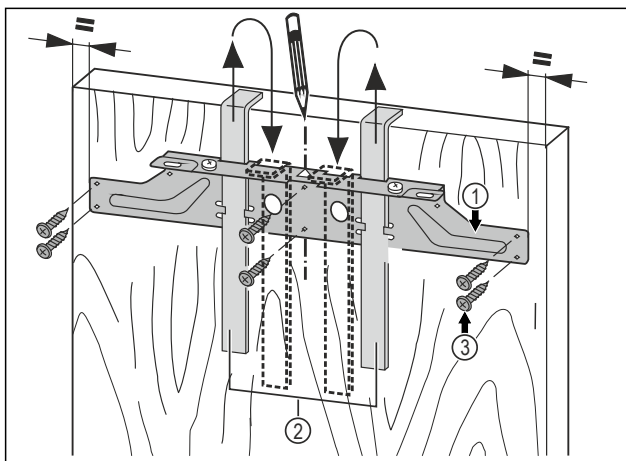

Fig. 20
- Hang the fastening bar Fig. 20 (1) with the mounting aids on the inside of the unit door Fig. 20 (2).
- Align the fastening bar Fig. 20 (1) in the centre of the door.
- Tighten the mounting bar Fig. 20 (1) with at least 6 screws Fig. 20 (3).
- Screw the mounting bar Fig. 20 (1) to the edge with 4 screws Fig. 20 (3).
- Pull the assembly devices Fig. 20 (2) upwards and push them, at an angle, into the receiving openings.